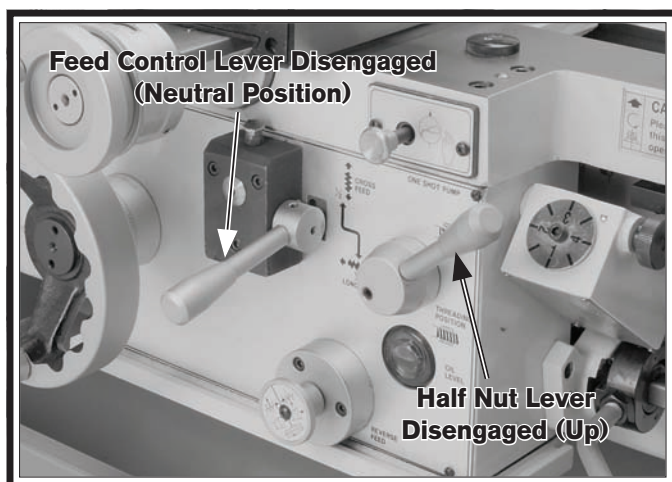

Figure 30. Power fed and half nut levers disengaged.
5. Disengage the half nut and the feed control levers shown in **Figures 30–31**.